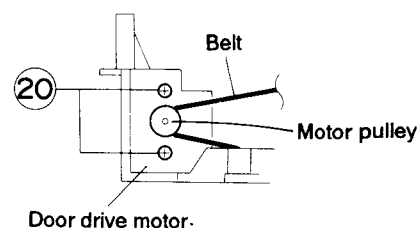

Fig. 5-38
■ Removing the door drive motor (See Fig. 5-38)
1. Remove the one screw ⑳ retaining the door drive motor.